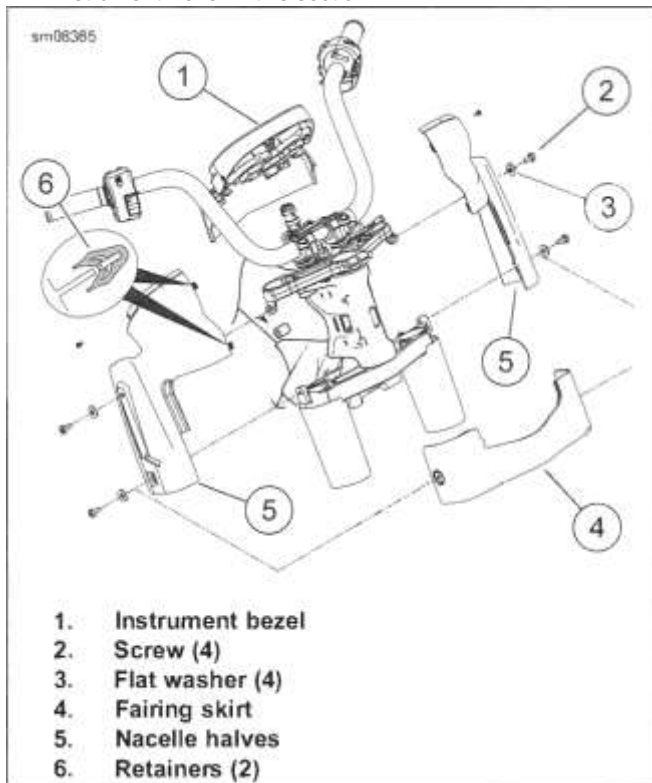

Figure 3-117. Instrument Nacelle
1. See Figure 3-117. Remove instrument bezel (1). See Remove and Install: Instrument Bezel in this section.
2. Turn the handlebar until screws (2) can be accessed. Remove screws and flat washers (3). Repeat with opposite side.
3. Remove fairing skirt (4).
4. Pull nacelle halves (5) apart to release two retainers (6).
1. See Figure 3-117. Verify two retainers (6) are in place.
3. While holding nacelle halves in approximate position, install fairing skirt (4).
4. Turn handlebars until screws (2) can be installed.
5. Install screws and flat washers (3). Tighten.